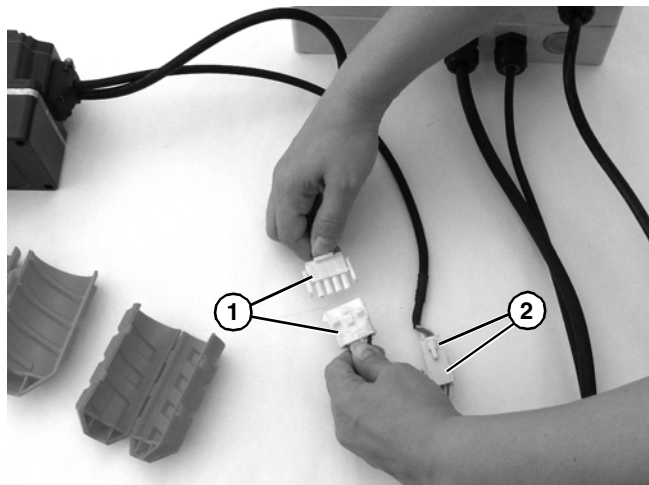

Figure 24
4. Unplug motor cord connectors (**Figure 24, item 1**) and signal cable connectors (**Figure 24, item 2**).